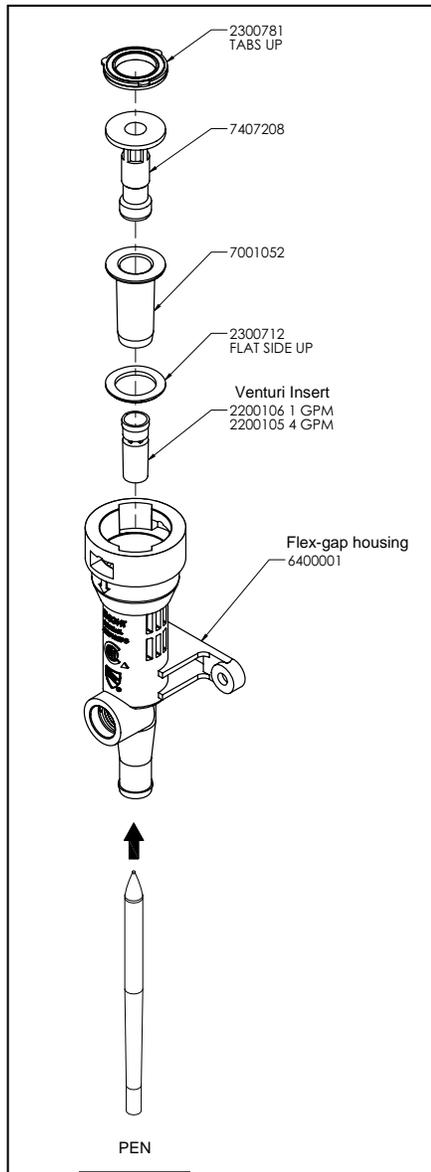

Figure 1 (Flex-Gap Assembly)
- (1) Remove the cover by gently snapping it away from the unit.
- (2) Disconnect tubing from Flex-Gap housing
- (3) Twist the Flex-Gap housing counter-clockwise to remove it from the water valve body
- (4) Push out existing venturi tube by inserting a pen up through the bottom of the Flex-Gap housing (note the order of the parts as they are removed from the flex-gap/venturi housing). **See Figure 1**
- (5) Insert the new venturi insert (for the desired flow rate) into the Flex-Gap housing, ensuring that it seats firmly. Place the flex-gap parts in the order removed from the previous step.